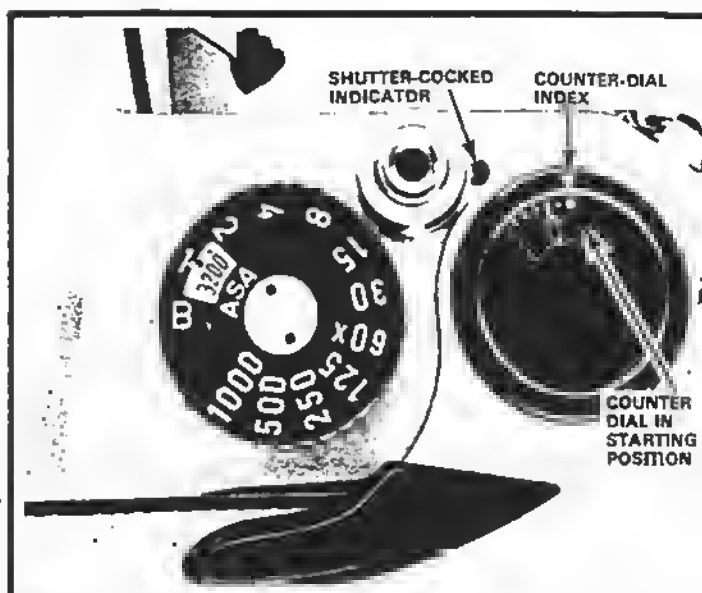
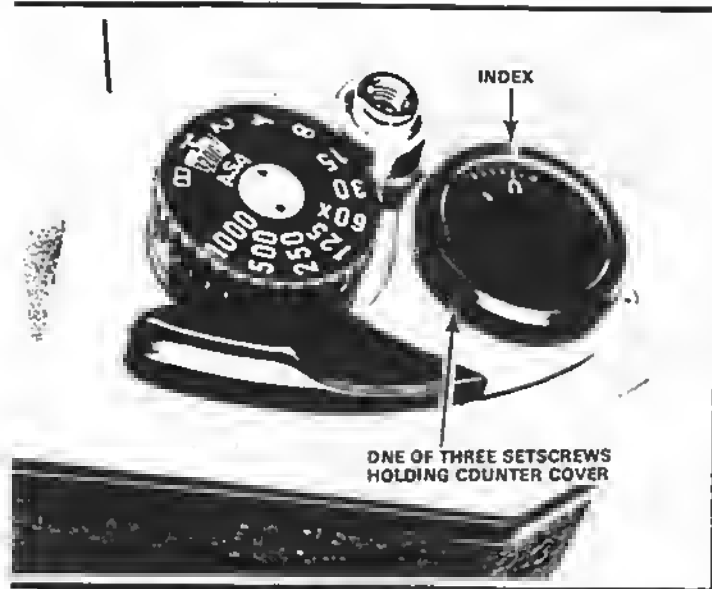
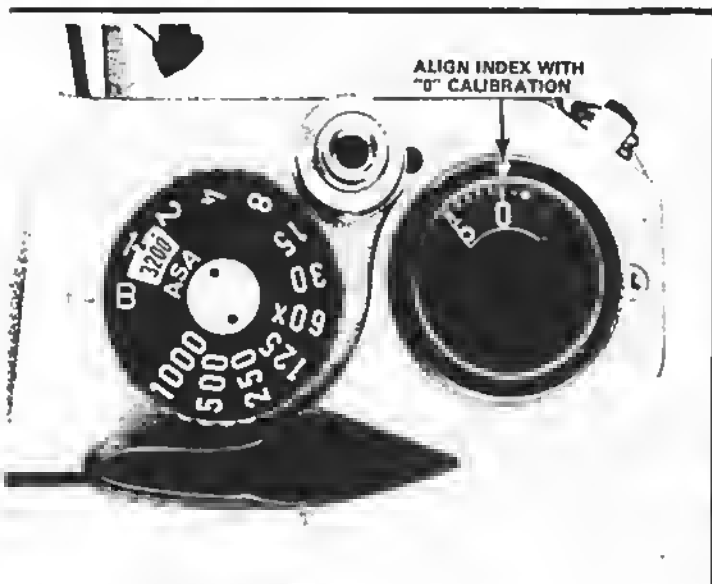

Figure 9
Figure 17
Figure 18
The other camera features remain the same in the various Spotmatic models. Even the very early Pentax SLR's provide the shutter-cocked indicator. When you cock the shutter, a red section of the shutter-cocked indicator shows through the top-cover window, Fig. 9; the red flag serves to warn you that the shutter is in the cocked position. A black section of the shutter-cocked indicator shows through the top-cover window when the shutter is released.
The operation of the counter dial is also the same in the many Spotmatic models. Try opening the camera back -- the counter dial should snap to the large-dot position, Fig. 9. Then, close the camera back and advance the wind lever. The counter dial should rotate one film-frame calibration each time you cock the shutter.
The procedure for removing the top cover remains practically unchanged in the various Spotmatic models. Starting with the wind lever, loosen the three setscrews which hold the counter cover, Fig. 17. Then, lift off the counter cover.
**REASSEMBLY:** When you replace the counter cover, you must properly align the index, Fig. 17, with the counter-dial calibrations. First, open the camera back; the counter dial then returns to its starting position. The index should now align with the large dot on the counter dial, Fig. 9. But it's pretty tough to precisely align the index with a dot. So close the camera back; then cock and release the shutter two times. Now, seat the counter cover. Rotate the counter cover until its index aligns with the "0" calibration, Fig. 18, and tighten the three setscrews.